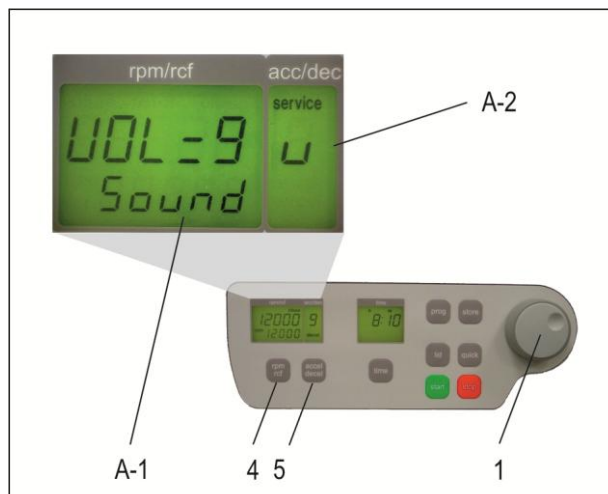

Figure 6
Proceed as illustrated, under point 1.8.2, to enter this program mode, press the key "accel/decel" (5). In the display, "accel/decel" (A-2), flashes the word, "service". Select the letter, "U" with the adjustable knob (1). As a result, appearing in the display, "rpm/rcf" (A-1), are the words, "Vol=0-9/Sound". By pressing the key, "rpm/rcf" (4), the desired volume can be adjusted between 0 (low) and 9 (loud), with the adjustable knob (1), (see Figure 6).